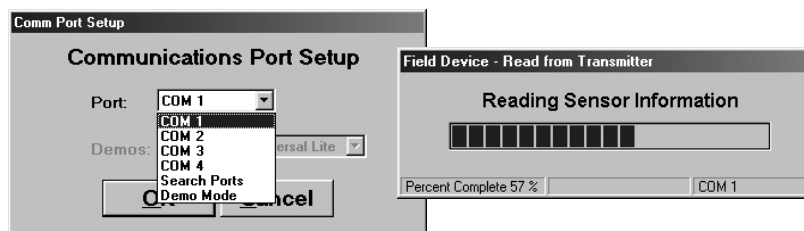

Figure 3-2
- E. Select communication port [Com 1, Com 2, etc.] and then click "OK." **See Figure 3-2.**